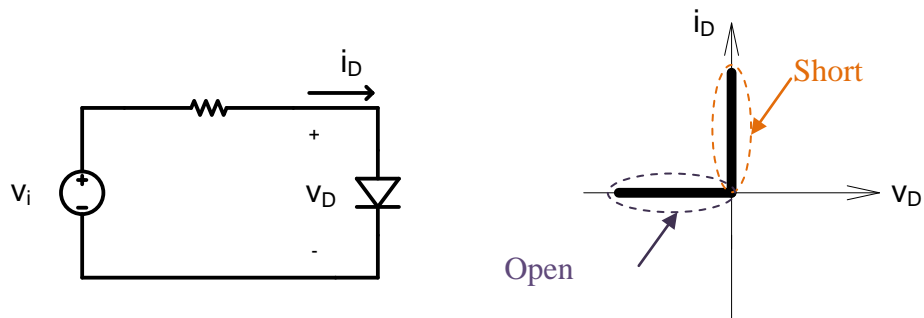

Figure 6-2: The ideal diode and v - i characteristic.
3. The nonlinear characteristic of an ideal diode is illustrated in Figure 6-2. When the source voltage v_i is positive, i_D is positive and the ideal diode becomes a short circuit ($V_D = 0$). When v_i is negative, i_D is zero and the ideal diode becomes an open circuit ($v_D = v_i$). The diode can be thought of as a switch controlled by the polarity of the source voltage. The switch is closed for positive source voltages and open for negative source voltages. In practice, however, V_D is not 0 but $V_D = 0.7$ V for a silicon diode.